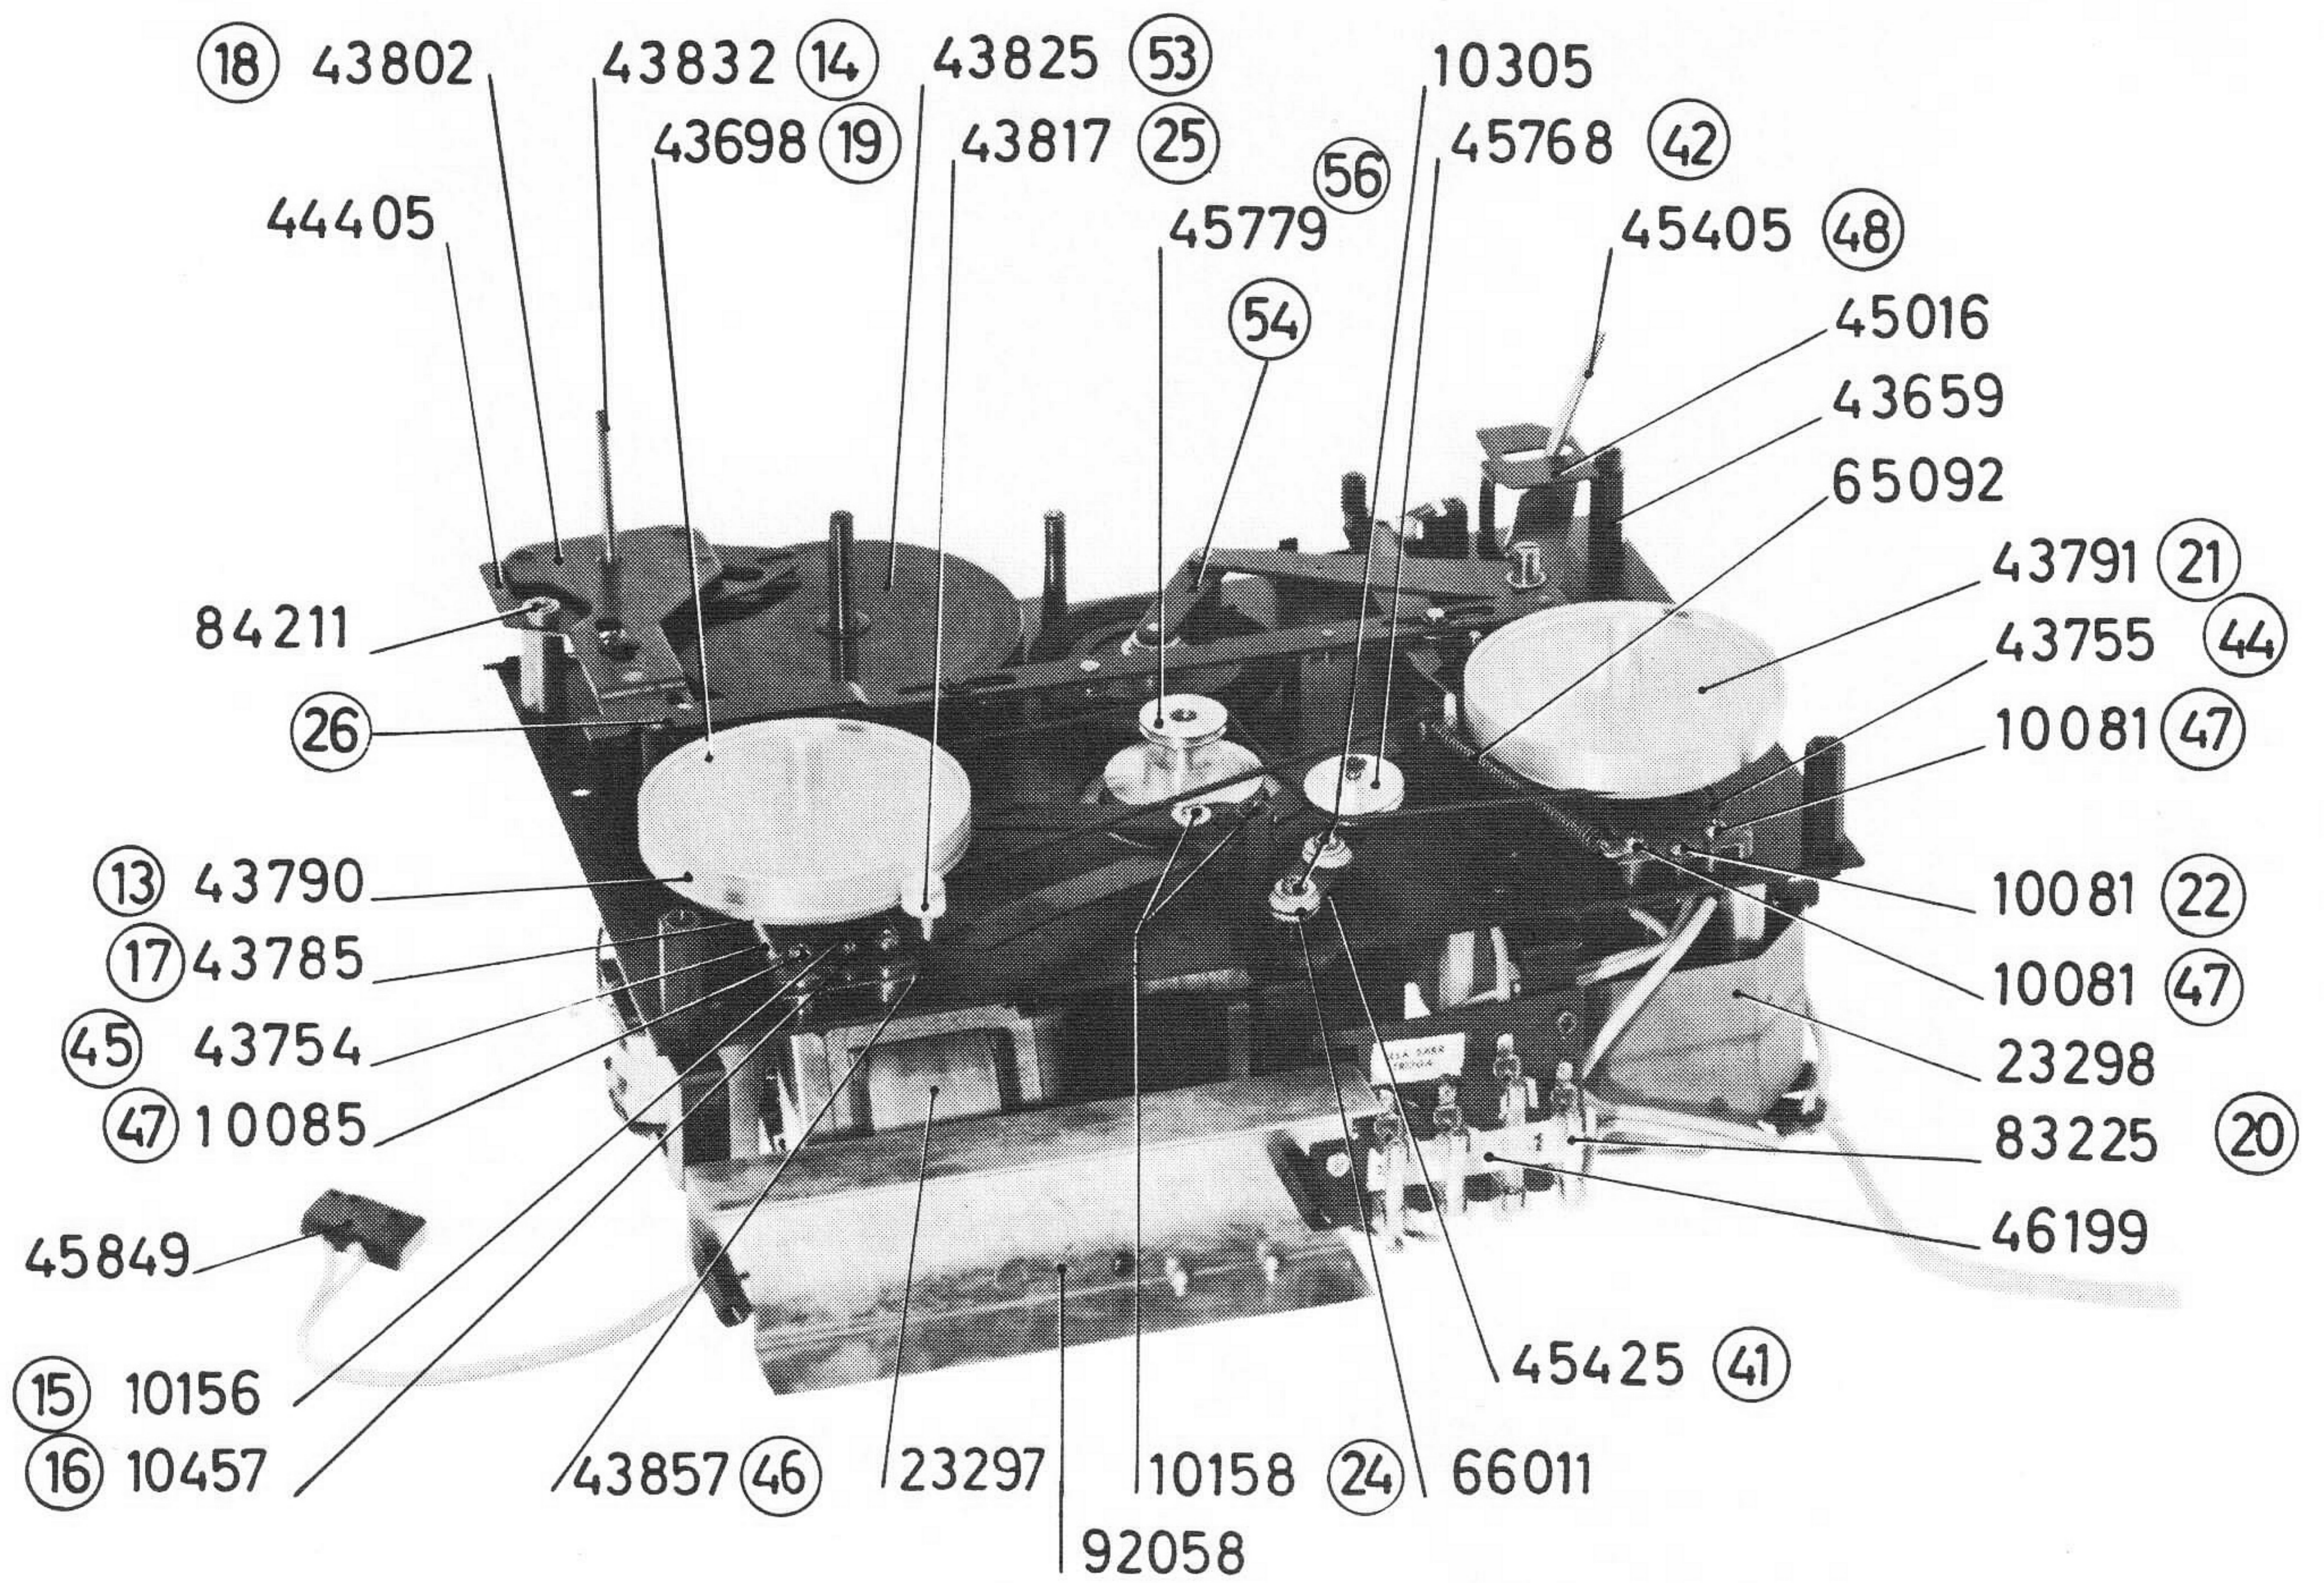

Fig. 3
(16) TILLS VÅGEN VISAR 130  $\pm$  10 GRAM. SE FIG. 3.
B) KONTROLLERA ATT ETT AVSTÅND PÅ 0,5 - 0,7 MM FINNES MELLAN SPOLHJULETS (13) FRIKTIONSILT OCH REMSKIVANS (17) ÖVRE FRIKTIONSUTA. FÖLJANDE JUSTERING GÖRES: PÅ MANÖVERARMEN (18) FINNES EN JUSTERMUTTER (19). AVSTÅNDET ÖKAS GENOM ATT SKRUVA UPP JUSTERMUTTERN. STARTSPAKEN (14) SKALL STÅ I NOLLÄGE, DÅ DENNA JUSTERING UTFÖRES. SE FIG. 3.
C) FINSÄKRINGEN 710 mA (20) UTLÖST. SE FIG. 3.
FÖR ATT JUSTERA DETTA ANVÄNDES EN TOMSPOLE MED EN INNERDIAMETER AV 57 MM, PÅ VILKEN ÄR UPPLINDAD EN BIT SKALLINA. DENNA SPOLE PLACERAS PÅ BANDSPELARENS VÄNSTRA SPOLHJUL (21), VAREFTER SKALLINANS FRIA ÄNDE FÄSTES I EN FJÄDERVÅG. FÖR DEN HÖGRA SPAKEN (14) TILL LÄGET MÄRKT MED TVÅ PILAR ÅT VÄNSTER, JUSTERA MED JUSTERSKRUVEN (22) TILLS GRAMVÅGEN VISAR 100 + 20 GRAM. SE FIG. 3.
A) STOPPBROMSARNA JUSTERAS SÅ, ATT DÅ STARTSPAKEN (14) STÄLLES I LÄGE SNABBT FRAM ELLER SNABBT BACK SKALL DEN VÄNSTRA BROMSFILTEN (23) LIGGA 0,1 - 0,3 MM FRÅN YTERKANTEN PÅ VÄNSTRA SPOLHJULET (21). DETTA AVSTÅND JUSTERAS GENOM ATT LOSSA DE BÅDA JUSTERSKRUVARNA (24). FÖR SEDAN STARTSPAKEN (14) TILL STOPPLÄGE, VRID VÄNSTRA SPOLHJULET (21) EN ANING MOTURS. VAREFTER DEN HÖGRA BROMSFILTEN (25) JUSTERAS (GENOM BOCKNING), SÅ ATT EN BROMSKRAFT ERHÅLLES PÅ HÖGRA SPOLHJULET, SOM NÅGOT UNDERSTIGER BROMSKRAFTEN PÅ DET VÄNSTRA SPOLHJULET. SE FIG. 3.
B) KONTROLLERA ATT MANÖVERARMEN (26) LIGGER LÄTT AN MOT BASPLATTAN (JUSTERAS GENOM BOCKNING) SE FIG. 3.
BRYTRULLEARMEN (41) JUSTERAS SÅ (GENOM LÄTT BOCKNING), ATT ETT SPEL PÅ MIN. 0,5 MM FINNES I REMKORSNINGEN. SAMTIDIGT SKALL BRYTRULLEN (42) VARA FRITT RÖRLIG I HÖJDLED. (MIN. 0,75 MM FRÅN LAGERTAPPENS ANSATS NEDTILL OCH LÅSKLAMMERN UPPTILL. SE FIG. 3.
MANÖVERFJÄDRARNA (44,45 OCH 46) MONTERAS SÅ ATT FJÄDRARNAS RÖRELSER I HÖJDLED EJ HINDRAS GENOM ATT FJÄDRARNA NÖTER MOT SPOLHJULSNAVENS LAGERBUSSNINGAR D.V.S. ATT FJÄDRARNA MÅSTE HÅLLAS I ETT NEUTRALLÄGE DÅ DERAS FÄSTSKRUVAR (47) ÅDRAGES. SE FIG. 3.
MOTORN DRIVRULLE (56) JUSTERAS I HÖJDLED SÅ ATT DÅ MANÖVERSPAKEN (48) STÅR I LÄGE 1 7/8" SKALL 1,5 MM AVSTÅND FINNAS MELLAN UNDER KANTEN AV MELLANHJULETS GUMMIBANA OCH ÖVRE KANTEN AV DRIVRULLENS 3 3/4" DRIVBANA. JUSTERING AV DRIVRULLENS HÖJDLÄGE GÖRES GENOM ATT ROTORN HÅLLES STILLA, UNDER DET ATT DRIVRULLEN VRIDES MOTURS, SAMTIDIGT SOM DEN HÖJES ELLER SÄNKES EFTER BEHOV. SE FIG. 3.